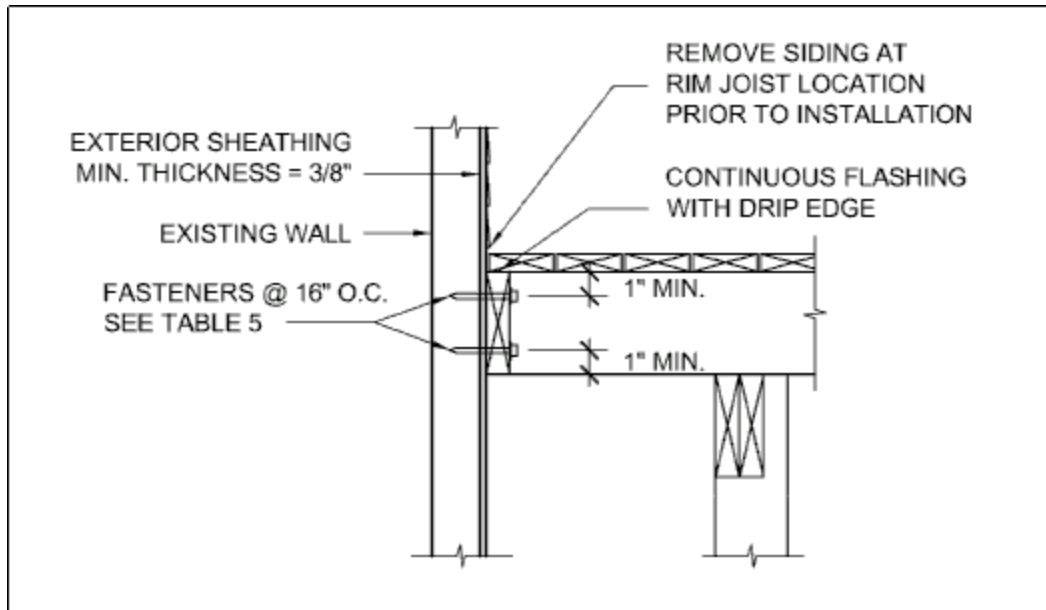

Figure 15 – Attachment to House Lateral Support
**Attachment to House:** Lateral support is provided for one-half of the deck by the attachment of the deck rim joist to the existing house as shown in Figure 15 (the beams and posts furthest from the house still require the diagonal bracing as shown in Figure 14). The existing exterior wall must have sheathing consisting of structural wood panels with a minimum thickness of  $\frac{3}{8}$ ", and the fasteners shall attach to an existing band board or wall stud. The deck rim joist may also attach to a concrete wall, but not to a brick veneer. **You must verify this condition in the field prior to utilizing this method.** Fasteners shall be 16" on center and must penetrate existing wall studs. See also the provisions noted on page 11. Flashing over the rim joist is required and must be installed in accordance with the flashing provisions noted on page 11.